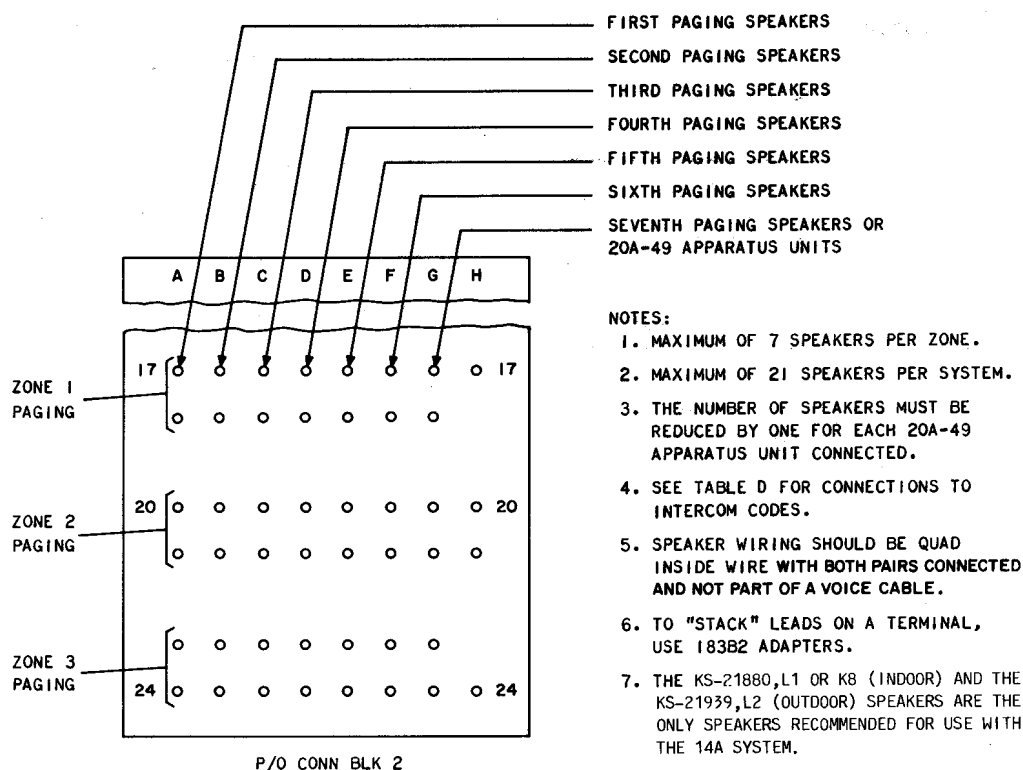

Fig. 33—Connections for Paging Speakers
(3) Install loudspeakers and connect them to the KSU using quad inside wire with both pairs connected (Fig. 33). To stack leads on the connecting block terminals, use 183B2 adapters. Speaker wiring should be run separately and should not be part of a voice cable. Speakers, connected with 24-gauge quad inside wire (having both pairs connected), may be located a **maximum of 320 feet** from the KSU.